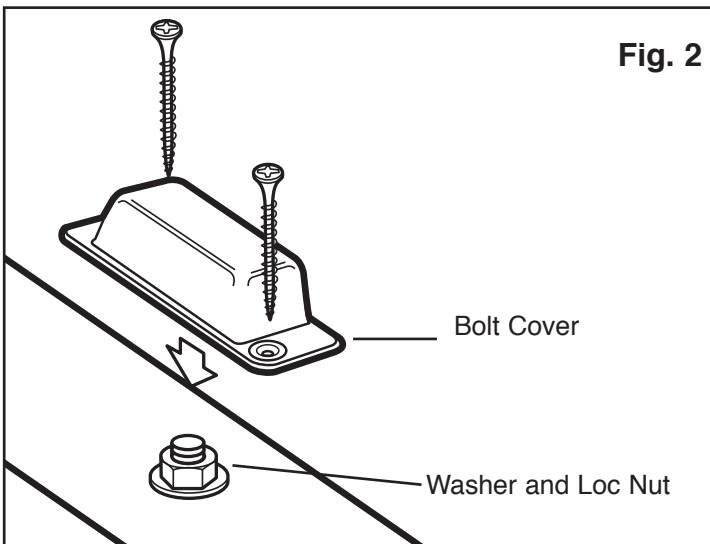

Fig. 2
3. Remove existing carriage bolt from the bracket and replace with the first Cargo Net eye bolt. Insert remaining eye bolts through the beam and secure all of them using a washer and loc nut (see Fig. 2).
5. Place bolt covers over the bolts as indicated in Fig. 2. Secure bolt covers using 2" screws.